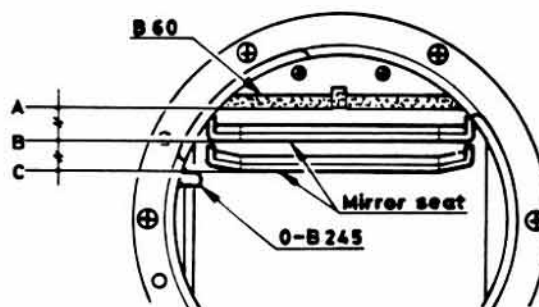

Fig. 15
- ° The shutter should be released when the bottom side of Mirror seat reaches between B and C as shown in Fig. 15.